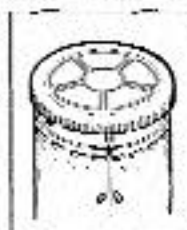

Fig. 5
C) MOUNTING TOP PLATE : (Fig. 5)